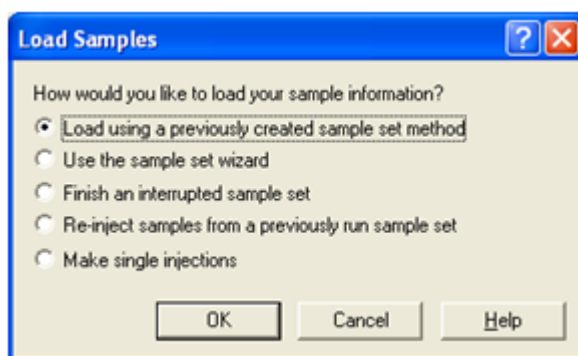

Figure 11
5.9. Accept the default setting (Load using a previously created sample set method). Click OK (See Figure 11).